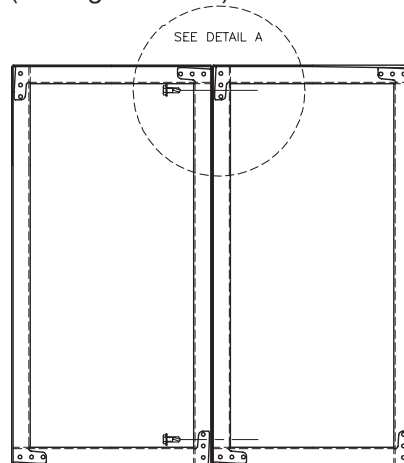

Figure 1
- 3) The damper sections must be attached together with #10 x 3/4 in. (19mm) max. sheet metal screws, 1/4 in. (6mm) diameter nuts and bolts, tack or spot welds, or 3/16 in. (4mm) diameter steel pop rivets. Attachments must be spaced a maximum of 12 in. (305mm) on centers and a maximum of 2 in. (51mm) from corners. Attachments must be made on front face and back face (air entering and air exiting side) of damper sections (see Figures 1 & 2).